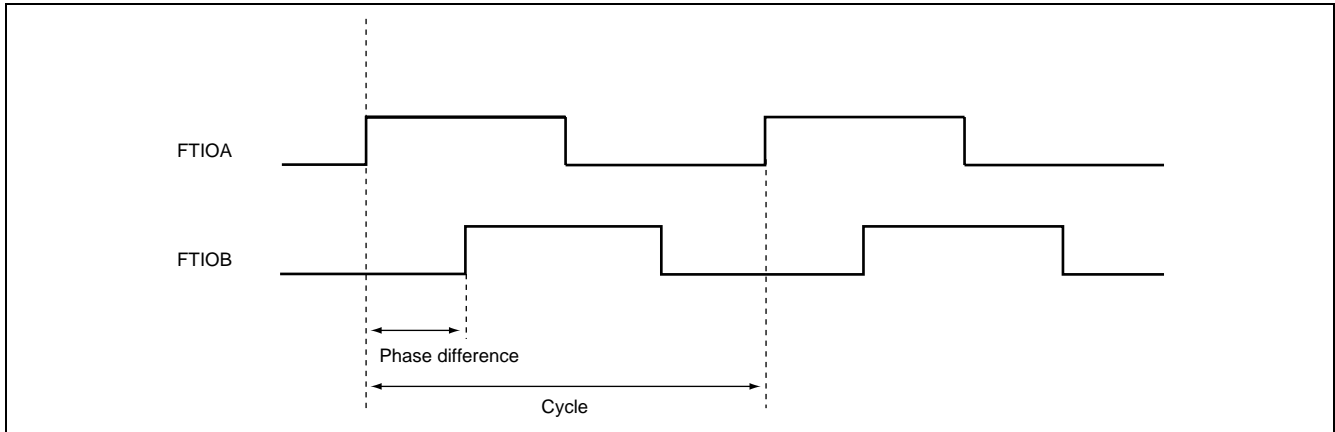

Figure 1.1 Timer W's Output Compare Function
Two pulses, each with a 50% duty cycle are output with an arbitrary phase difference by the output compare function of timer W, as shown in figure 1.1.
1. Two pulses, each with a 50% duty cycle are output with an arbitrary phase difference by the output compare function of timer W, as shown in figure 1.1.